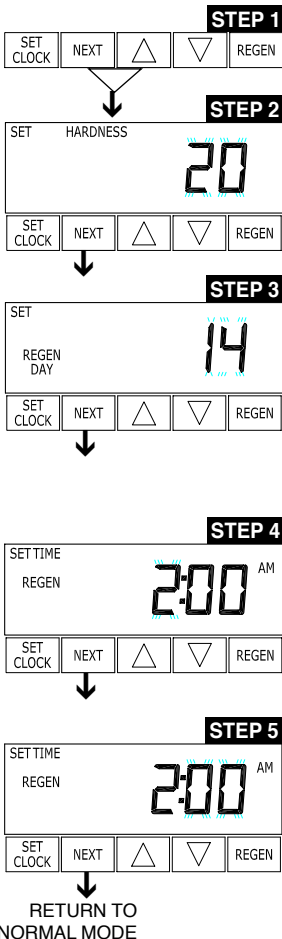

Figure 10a
12. Next set your softeners water hardness, days override and regeneration time settings (see figure 10a, page 8).